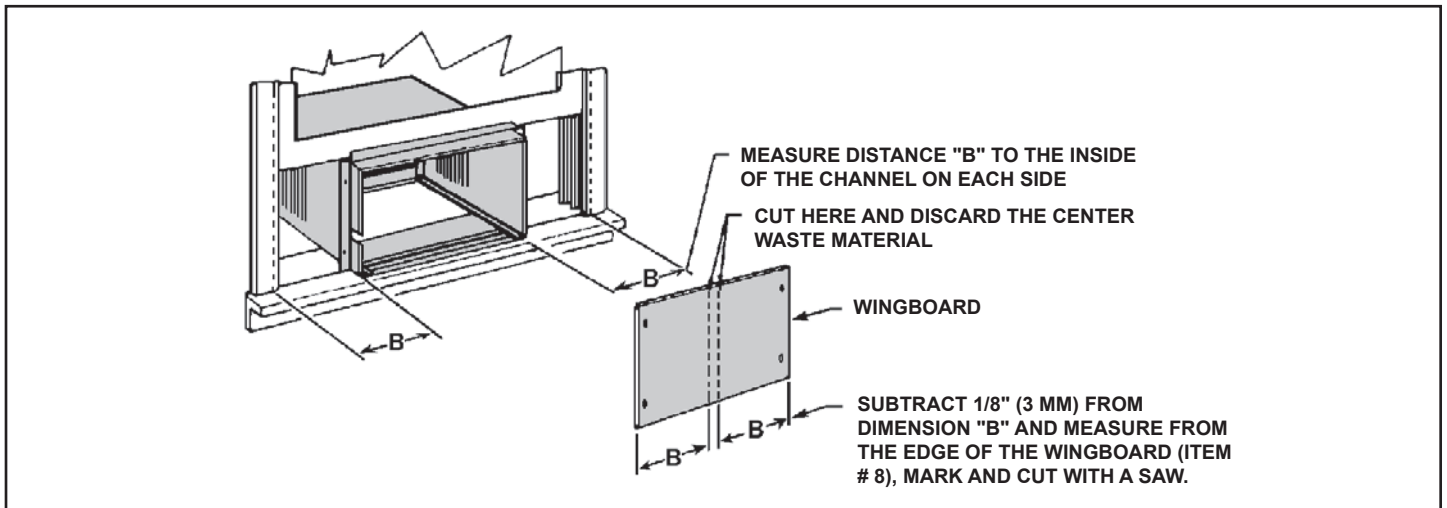

Figure C.5.5
STEP 7. Measure and cut the wingboard panels from the supplied masonite (Item #8) to fit the spaces between the side window channels and the sides of the cabinet (See Figure C.5.5).